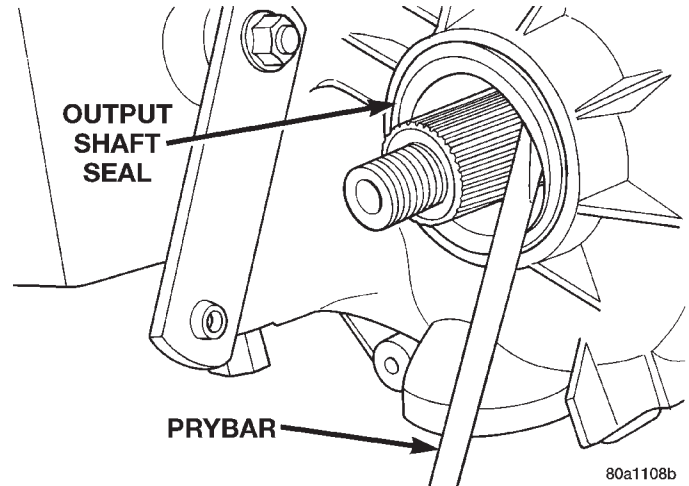

Fig. 50 Remove Front Output Shaft Seal
(4) Remove front output shaft seal using an appropriate pry tool (Fig. 50) or slide-hammer mounted screw.